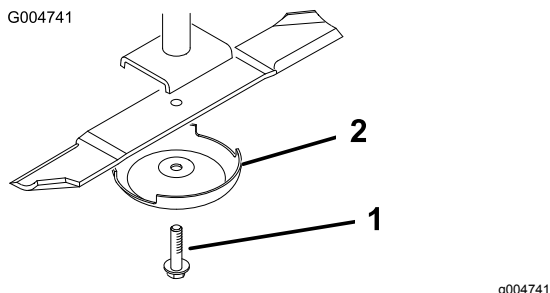

Figure 24
3. Remove the blade bolt, anti-scalp cup, and blade from the spindle shaft (Figure 24).